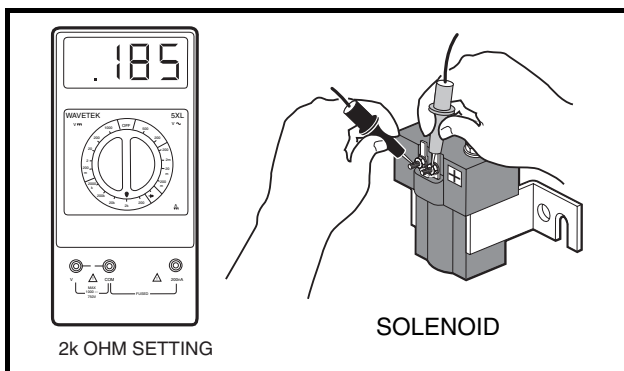

Figure 18-8 Activating Coil Test
5. Place red (+) probe of the multimeter on the positive (+) solenoid terminal. Place the black (–) probe on the other small solenoid terminal. A reading of 180 to 190 ohms should be obtained (Figure 18-8, Page 18-13). If not, replace the solenoid.